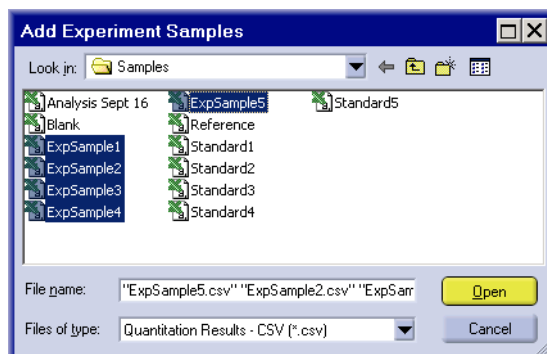

Figure 2-20 Add Experimental Samples Window
- Click the top file in the list, **ExpSample1**, press the **Shift** key, and click the last file in the list, **ExpSample5**). See Figure 2-20.